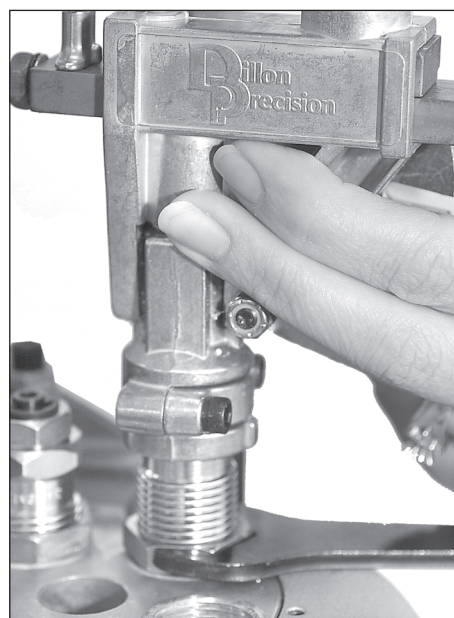

FIG 99
8. While holding the powder measure, snug the locking using a 1" wrench FIG 99. Now lower the platform.